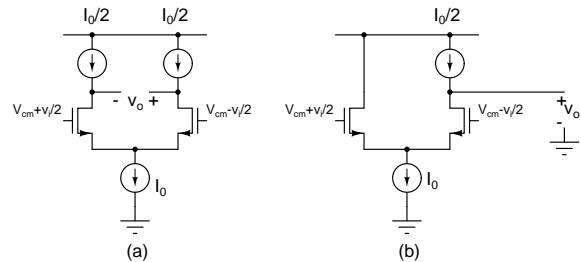

Figure 3:
- Determine the small signal dc gains of the two amplifiers in Fig. 3. The transistors can be modeled using g_m and g_{ds} . Explain the results.